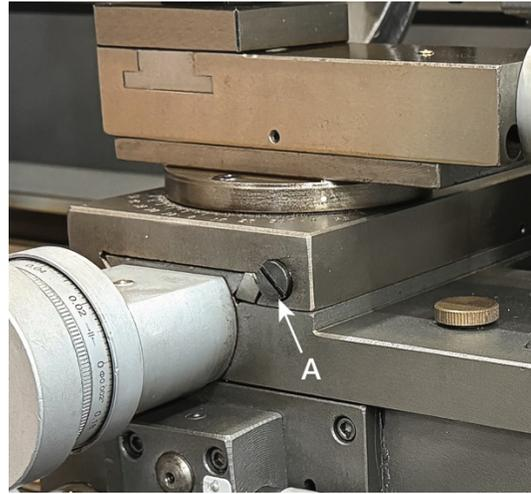

Figure 14-2
2. Tighten front gib (A, Figure 14-2) screw a quarter turn. Turn the cross slide handwheel to see if the cross slide is still loose. If it is still loose, tighten the front screw a bit more and try again.